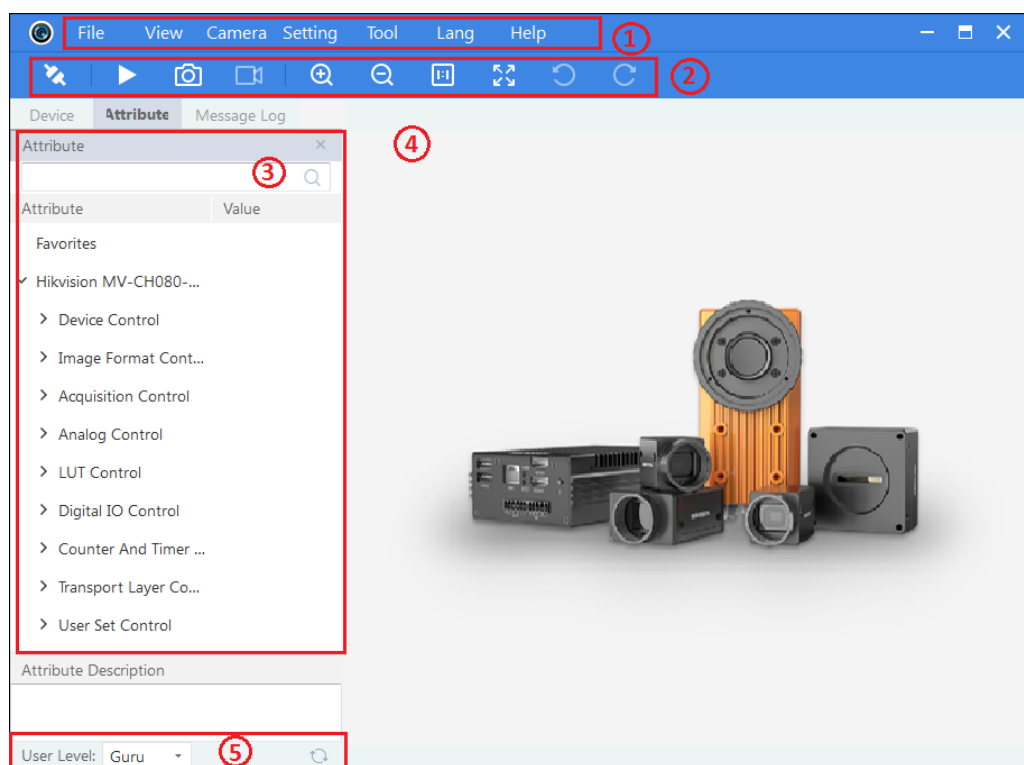

Figure 2-6 Main User Interface of the Client Software
1. Double click the MVS icon to open the client software. The main user interface and the description of the client software are shown in Figure 2-6 and Table 2-1.